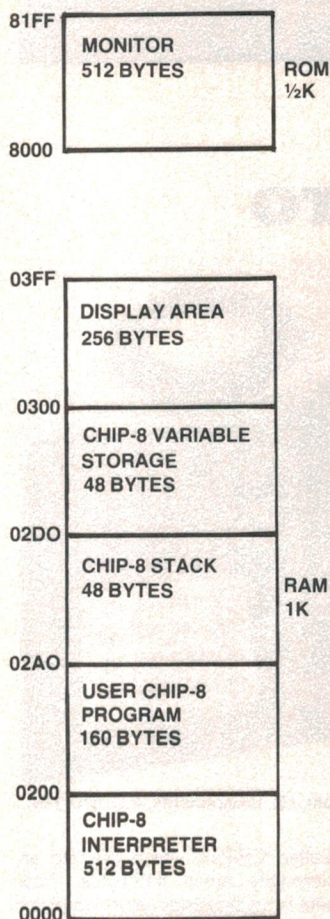

Figure 1. VP-111 memory map, with CHIP-8 'installed' in RAM.
The memory map for the VP-111 is given in Figure 1 (with the CHIP-8 minimum on-board RAM). As each CHIP-8 instruction takes two bytes, it's easy to see that the maximum number of CHIP-8 instructions per program (80) is a bit of a squeeze for even quite simple tasks. Some of the examples of CHIP-8 programs given in the manual actually cross the O2AO threshold, which is allowable only because that particular program doesn't have a very deep level of subroutine nesting — the stack starts at O2D0 and goes down.